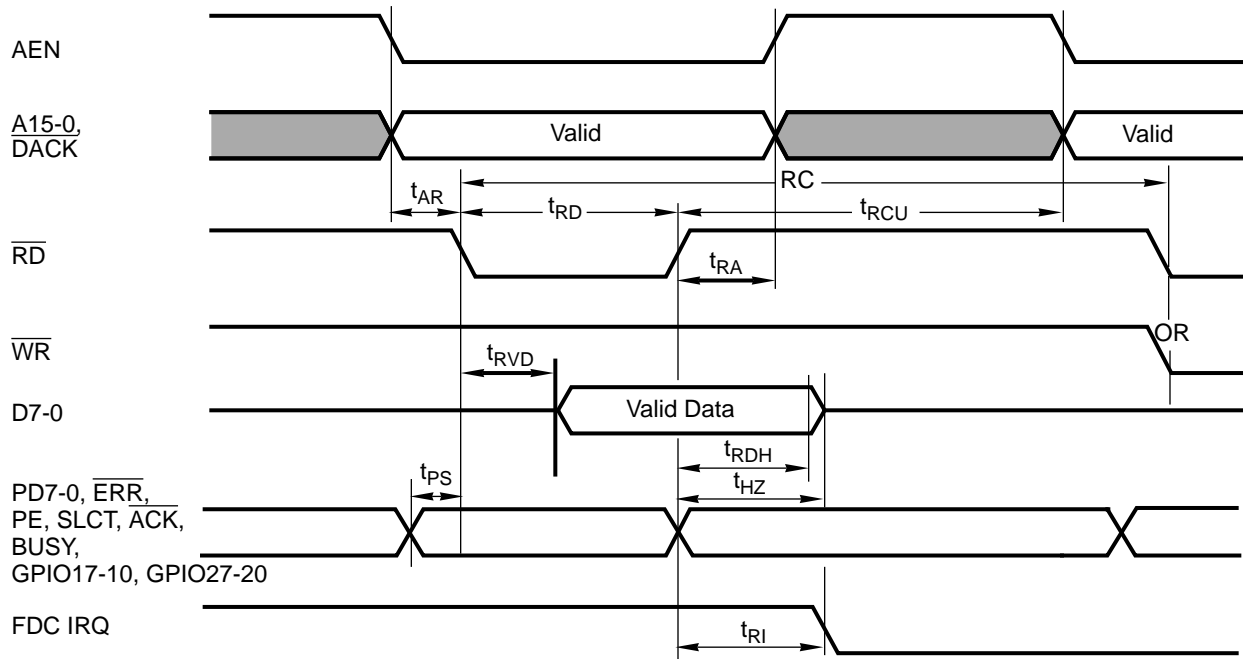

FIGURE 13-3. Microprocessor Read Timing
2. See read cycle timing in Figure 13-3.
2. See read cycle timing, Figure 13-3.